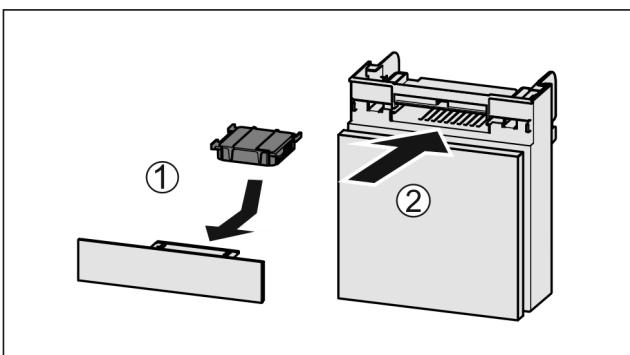

Fig. 121
- ▶ Insert the carbon filter as shown in the diagram Fig. 121 (1).
▶ Push the compartment in Fig. 121 (2).